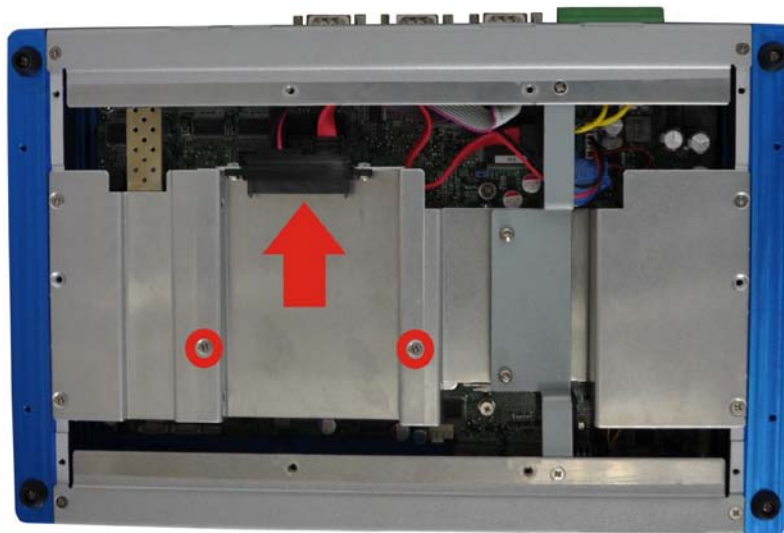

Figure 3-4: HDD Bracket Installation
Step 5: Slide the HDD bracket to connect the HDD to the SATA connector. Secure the HDD bracket with TANK-720 by the two retention screws that were previously removed (**Figure 3-4**).